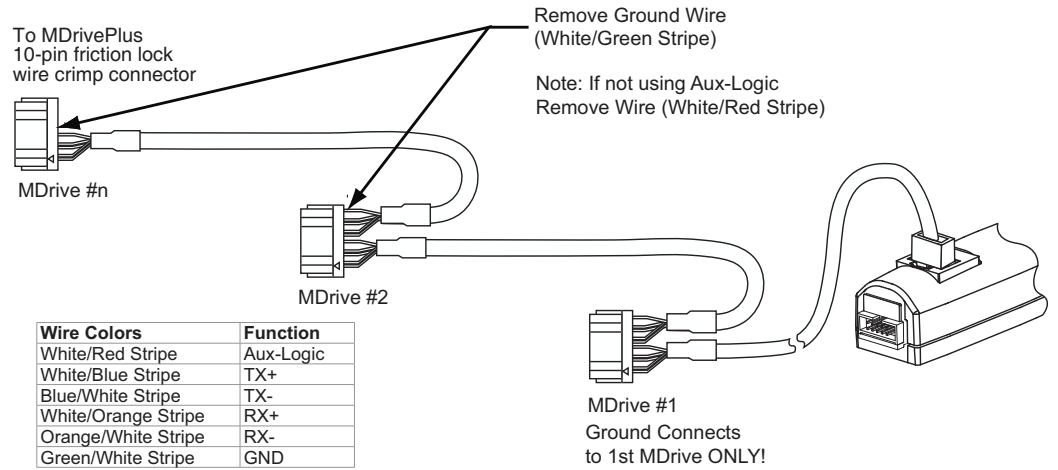

Figure D.6: Configuring the MD-CC402-001 for Multi-drop (Party Mode) Communications
2. Remove the ground conductor (Pin 10) between all connectors except the connector for the first MForce in the daisy chain. This is to prevent communication errors and and potential damage due to ground loops. See Figure D.6